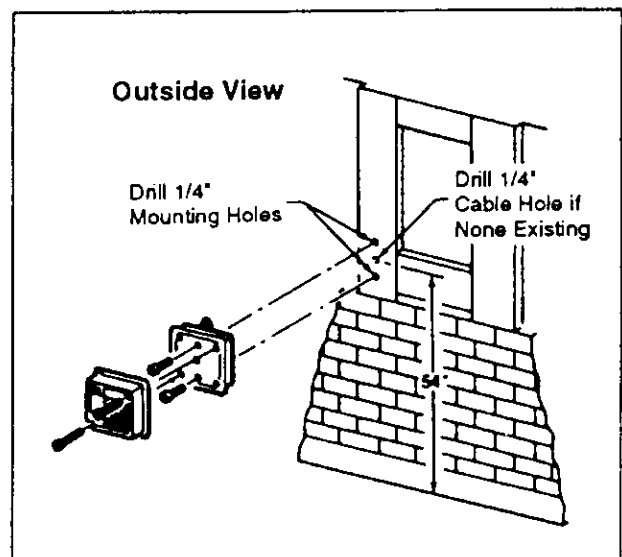

Figure 2. Mounting SSM Speaker
- c. If no hole or electrical box exists at the mounting point, drill a 1/4-inch cable hole as shown in figure 2.